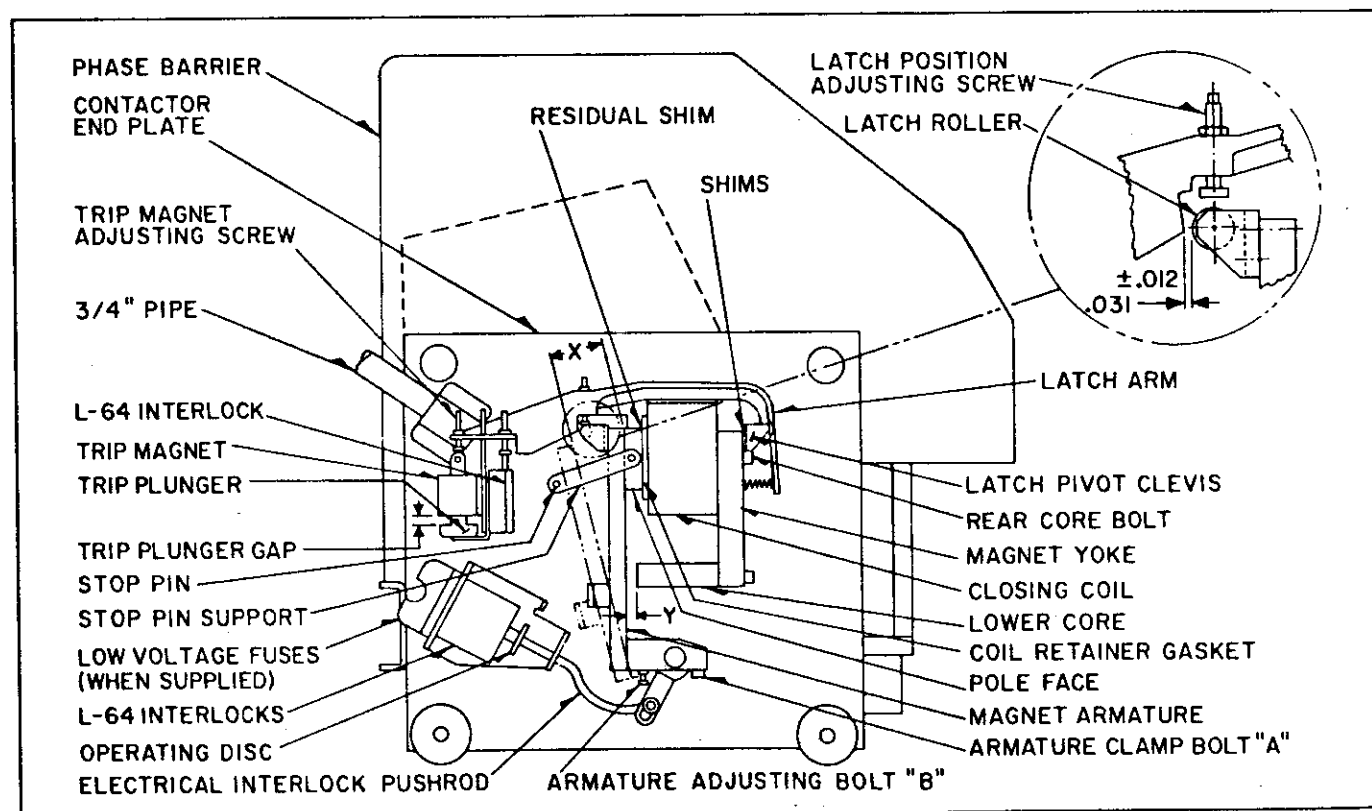

Fig. 11 Magnet Adjustments (Dwg. 3513C85)
Check, and if necessary adjust contact overtravel. Overtravel is measured at point "X" of Figure 11 at the tip of the magnet armature. With new contacts this dimension should be $.62" \pm .016"$ when the main contacts are at the touch point.
1. Loosen the two bolts at "A" in Figure 11 which clamp the magnet armature to the shaft.
2. Block the magnet armature to provide a gap of $.62"$ at point "X" of Figure 11.
3. Adjust bolt "B" in Figure 11 as required to make contacts just touch. With this adjustment contact open gap should be $1" \pm .125"$ measured at the heel of contact faces when the armature is resting against the stop pin.
- (a) Add or subtract .012 thick shims between latch pivot clevis and closing magnet yoke as required to make the corner of latch arm clear the extreme projection of latch roller by $.031 \pm .012$ ", when the latch arm drops into the latched position and the closing magnet armature is tight against the pole face (See Figure 11).